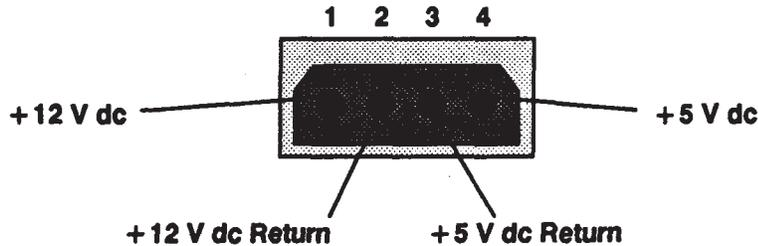

Figure 4-19. Disk Drive Power Supply Input Connector (P2 or P3)
3. Use the voltmeter to test the voltages at the power supply input connector to the Winchester drive. Unplug P2 or Pi to check the voltages. Figure 4-19 shows the connector voltages.